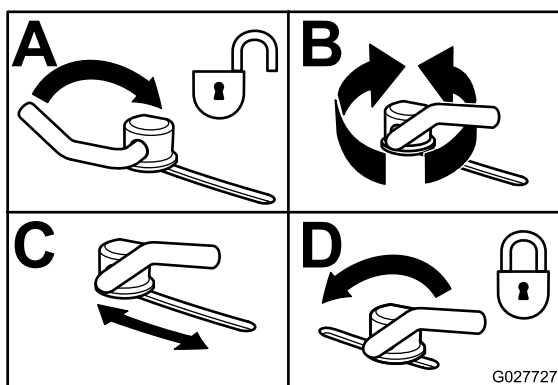

Figure 32
3. To adjust the cam locks, swing the lever up to loosen the cam lock (Figure 32).
5. Swing the lever back over to tighten the baffle and cam locks (Figure 32).